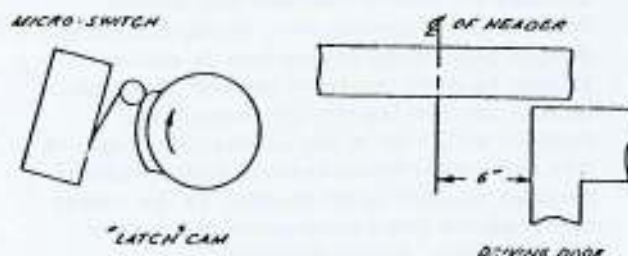

FIG. 31 "Latch" stop cam adjustments.
- (b) Slide the driving door toward the closed position until the edge is between 1 and 2 inches from the center of the header (or from the door jamb if installation is for a single door). See FIG. 31. Loosen the hex nut at the end of the "LATCH" and "CLOSE" camshaft. Rotate both cams until the switch arm contacts the "CLOSE" cam lobe at the beginning of the high rise. Tighten the hex nut. Scribe a pencil mark on the header, flush with the side of the door.
- (e) Slide the driving door toward the closed position until the edge is about 6 inches from the center of the header (see FIG. 31) or